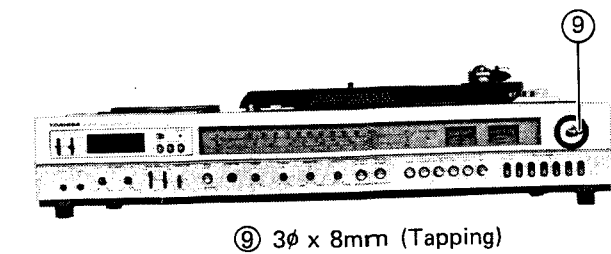

Figure 12.
5. Remove 1 screw ⑨. See figure 12.